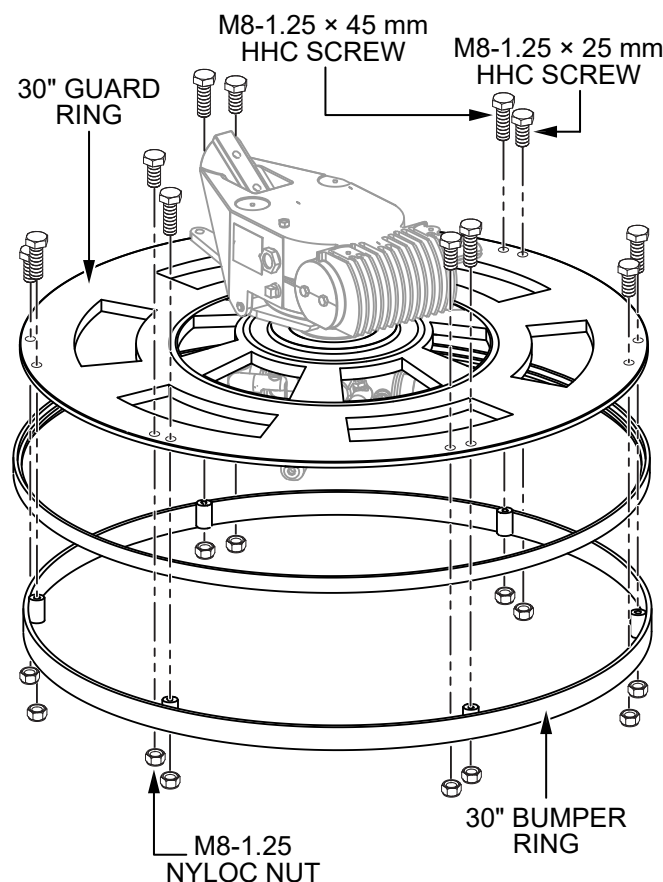

**Figure 21. 10.5-Inch Trowel Blade Removal**
1. Remove and retain the four 5/16-18 × 1-1/4" HHFS screws and four 5/16-18 × 1-1/2" HHFS screws securing the 8" × 10.5" trowel blades to the spider assembly (Figure 21).